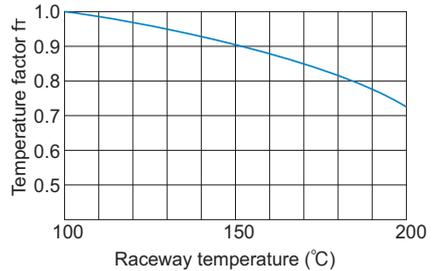

Fig.12 Temperature Factor (fT)
- $f_T$  : Temperature factor (see Fig.12 on A1-77)
If the temperature of the environment surrounding the operating LM Guide exceeds 100°C, take into account the adverse effect of the high temperature and multiply the basic load ratings by the temperature factor indicated in Fig.12.